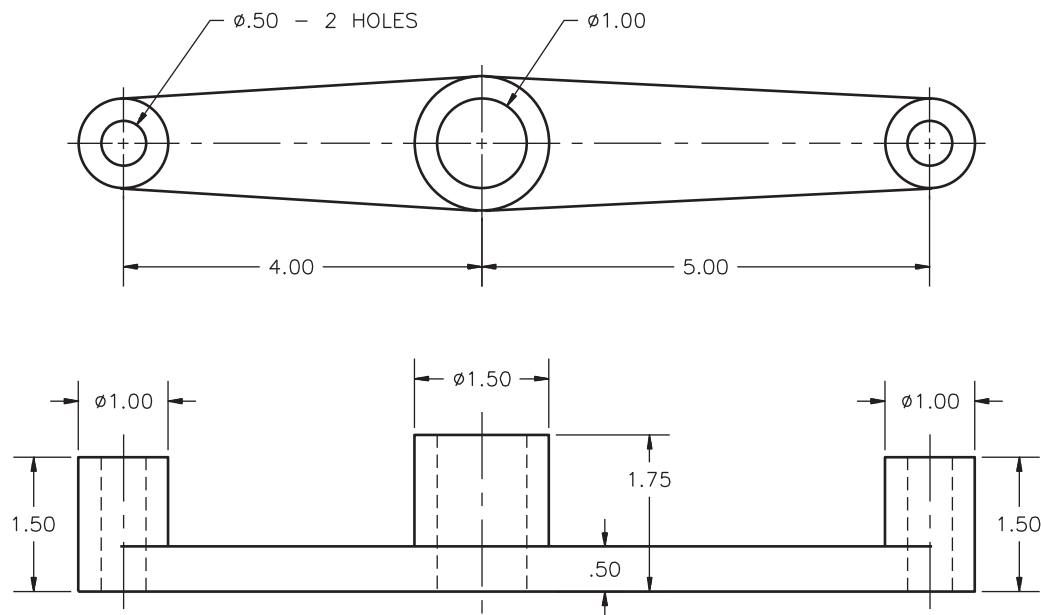

Fig. 46-8
2. A solid model of the rocker arm shown in Fig. 46-8 is needed, along with a full section and a complete set of 2D drawings, for the design and manufacturing departments. Provide the necessary drawings. Save the drawings using names of your choice.